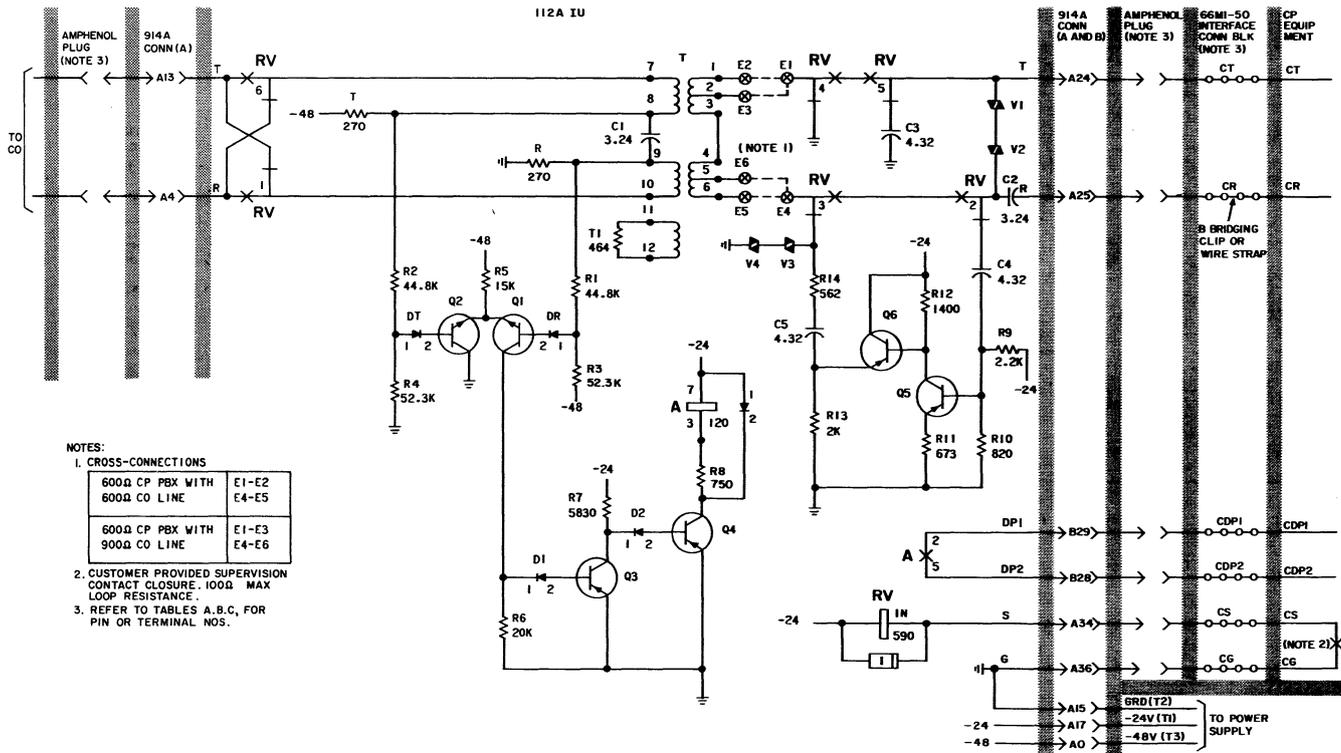

Fig. 7—Schematic of 112A Interconnecting Unit
### A. 112A Interconnecting Unit (Fig. 7)
**5. MAINTENANCE (Fig. 7)**